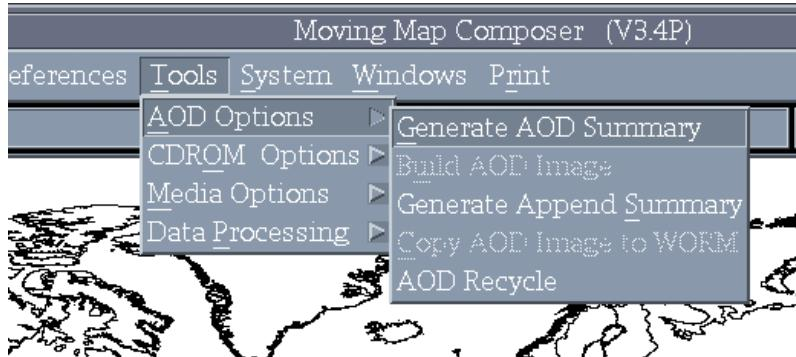

Fig. 17 – AOD options menu
- From the main menu, click on *Tools*, then *AOD Options*, and then *Build AOD Image* (Fig. 17). A dialog box will appear asking you to verify that you want to build the AOD image; click *Yes*.
- a. On the main menu, click on *Tools*, then *AOD Options*, and then *Copy AOD Image to WORM* (Fig. 17).